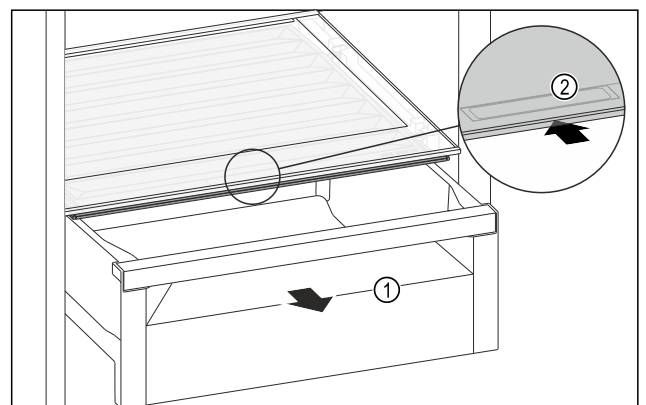

Fig. 188
- Pull out the drawer Fig. 188 (1).
- Grasp the recessed grip Fig. 188 (2) on the compartment lid and push the compartment lid backwards at the same time.